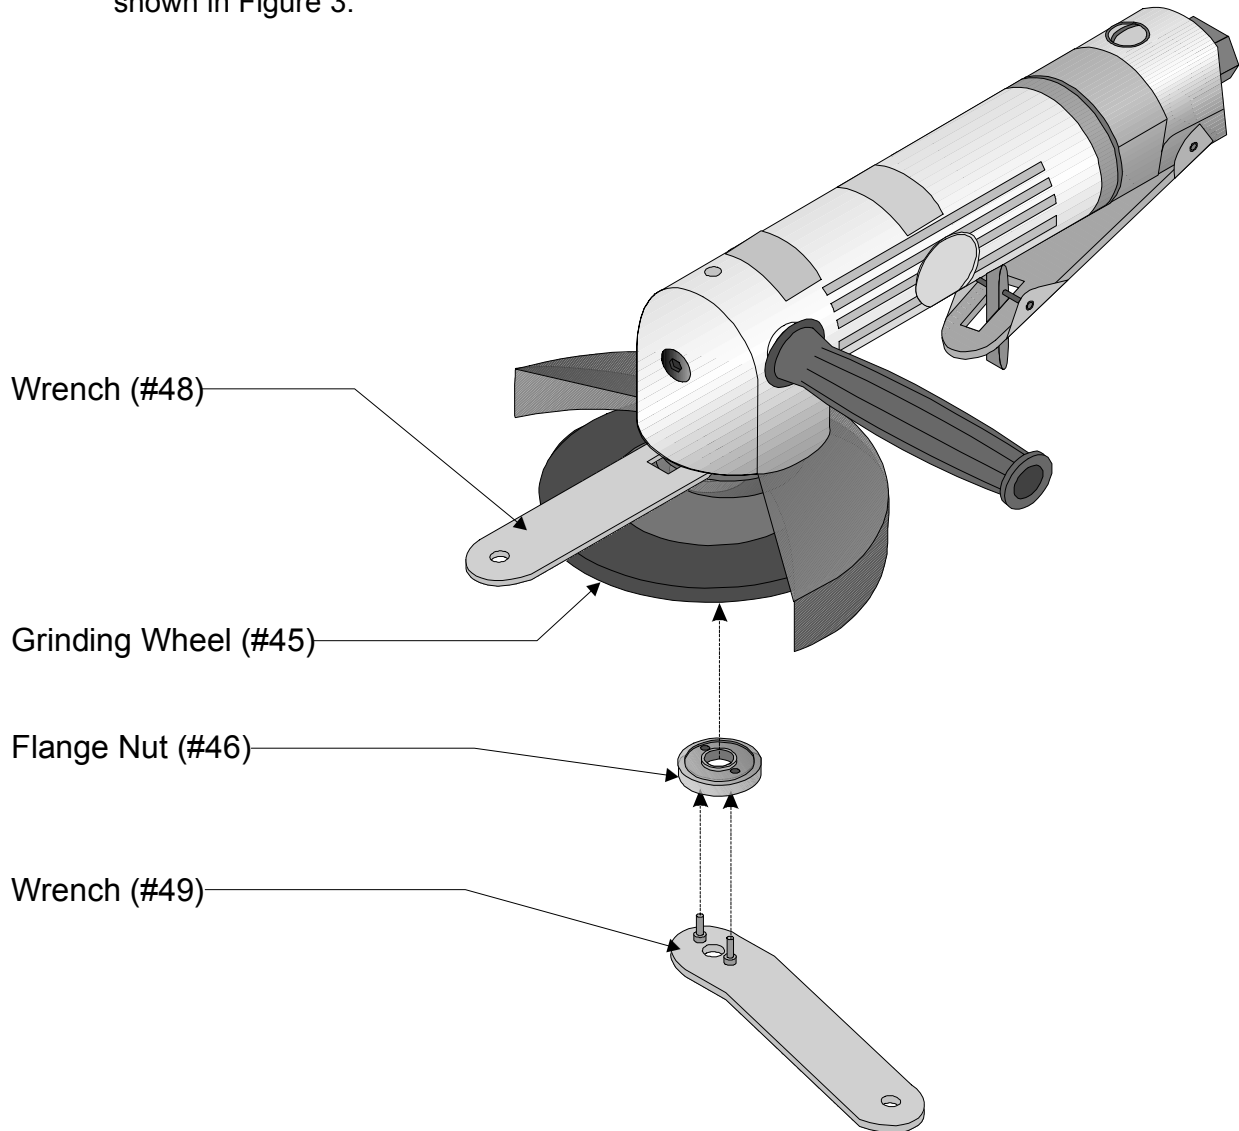

Figure 3 — Securing the Grinding Wheel
- Step 6: Insert the prongs of the WRENCH (#49) into the two holes in the FLANGE NUT as shown in Figure 3.